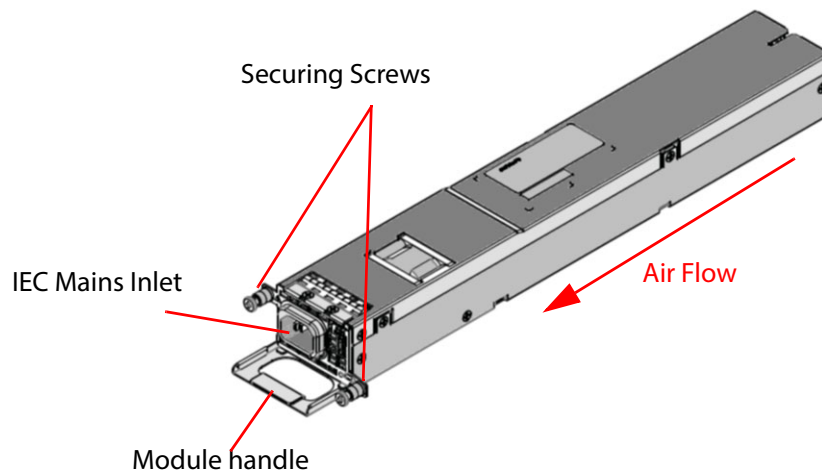

Figure 103 MV-820 Multiviewer PSU Module (Grass Valley stock code FGAMV 820-PSU)
3. Carefully pull the PSU module out of the MV-820 chassis, using the PSU handle, see Figure 103.